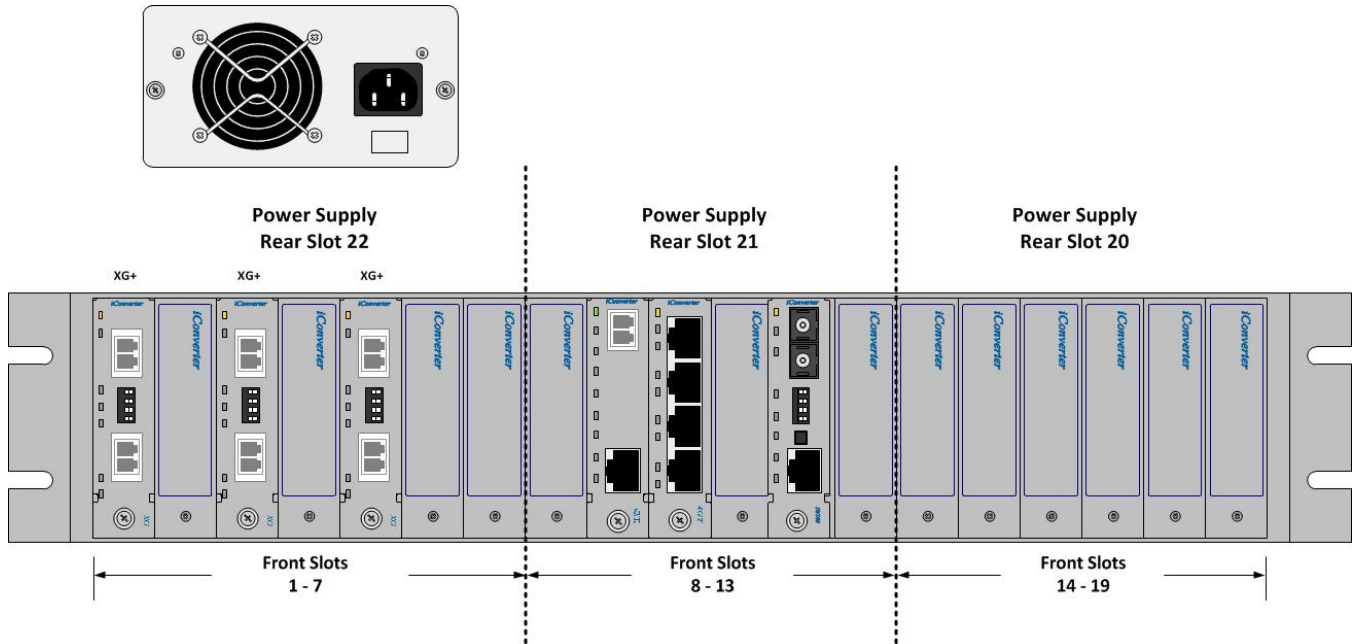

Figure 2. Properly Configured 19-Module Chassis and XG+ Modules
Figure 2 shows one (1) 120W High Airflow power supply installed in slot 22 and three XG+ modules installed in the appropriate chassis slots. This configuration will provide sufficient airflow and cooling for the modules. Three additional iConverter modules can be installed anywhere in the chassis that does not violate the spacing requirements of the XG+ modules.